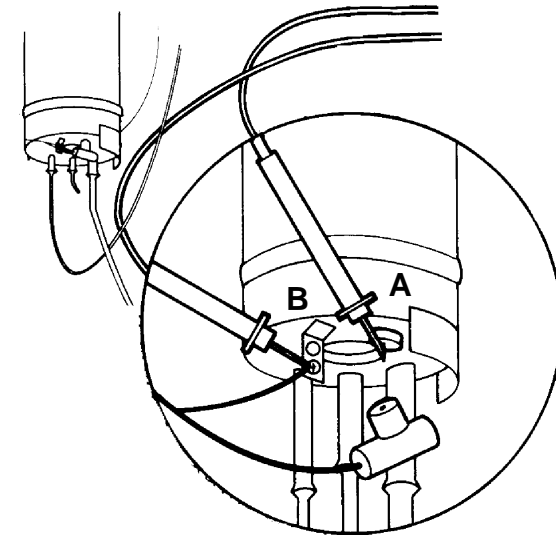
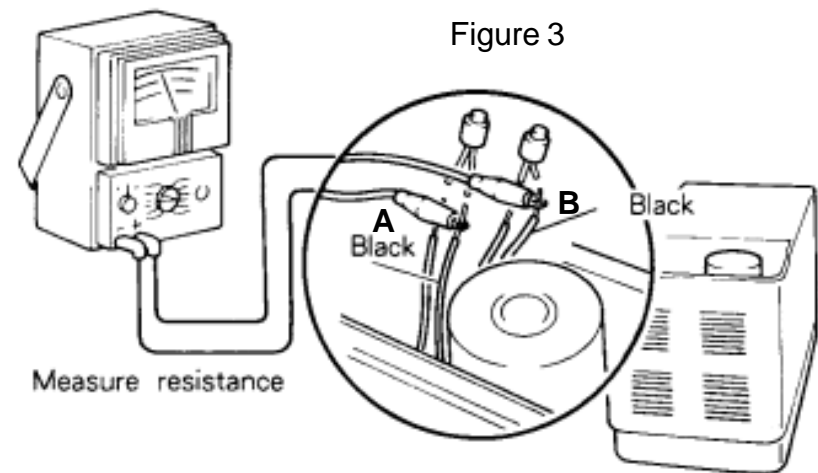

Figure 3
Figure 4
2. Remove the black wire to the compressor as shown in both Figure 3 and Figure 4. Measure the resistance of the compressor between Point A and Point B.